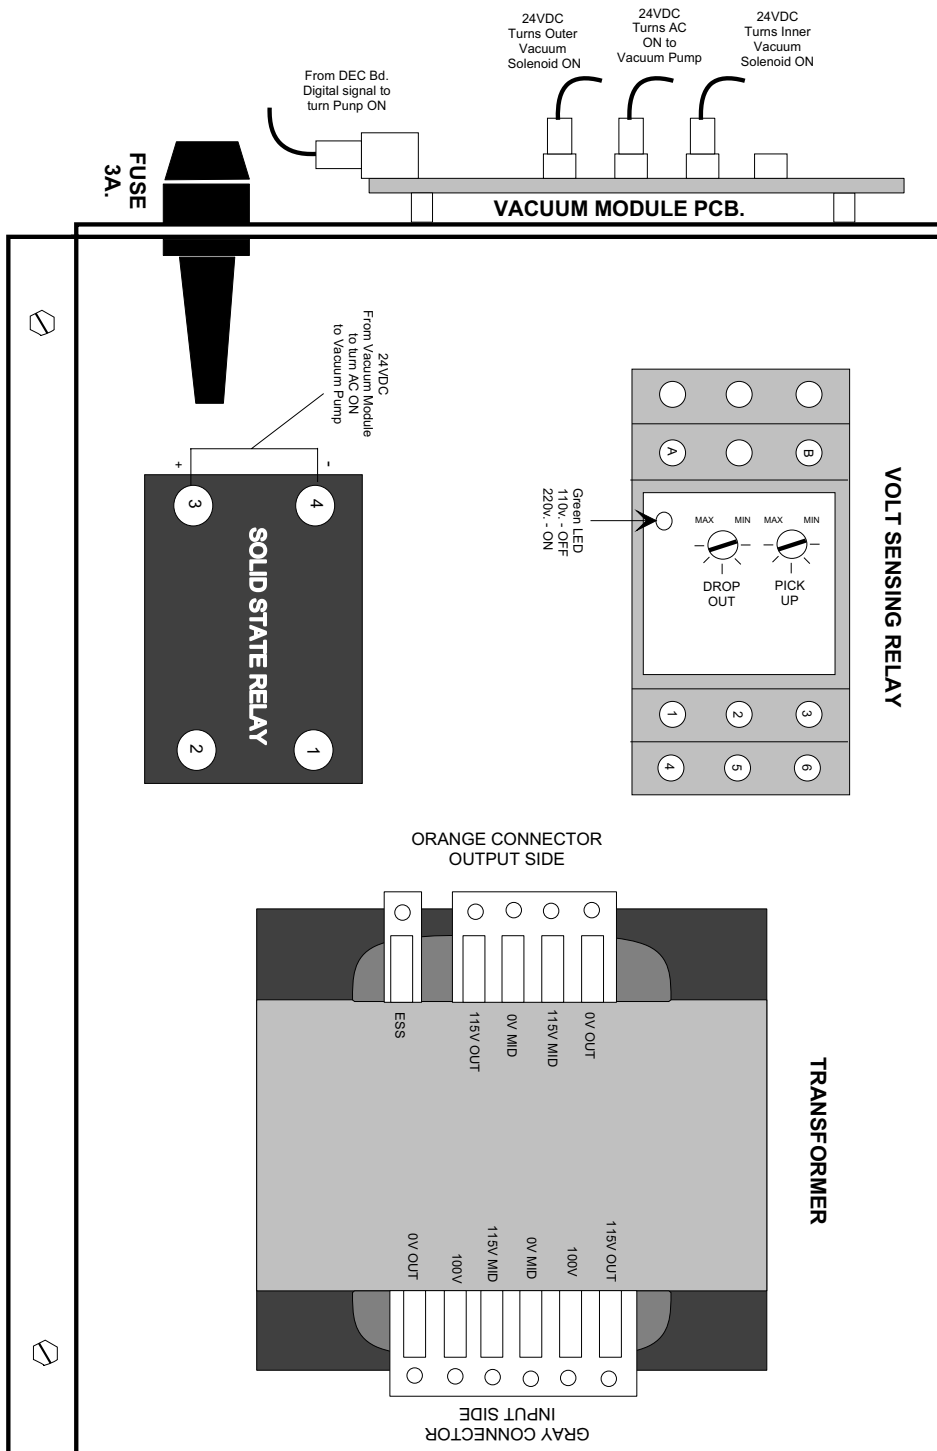

Figure 3-3 Transformer housing assembly.
Refer to Figure 3-3 and Section 3.5.1, Volt Sensing Relay Adjustment Procedure below.
- b. Locate the fuse holder on the outside of the electronics box (see Section 4.8, Vacuum in Chapter 4, Imagesetter Component Removal/Replacement Procedure). Refer to Figure 3-3.
6. If the voltage reading is wrong, check the voltage coming into the solid state relay (SSR). See Figure 3-3.
3. Locate the volt sensing relay. See Figure 3-3. Locate the green LED and two adjustment screws on top marked: PICK UP and DROP OUT.